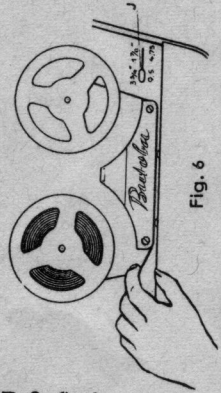

Fig. 6
4. Slip the tape into the guide slot and wind it into the empty reel for a few turns. Make sure that the tape lies correctly in the recesses of the two guide pegs. (See fig. 6)